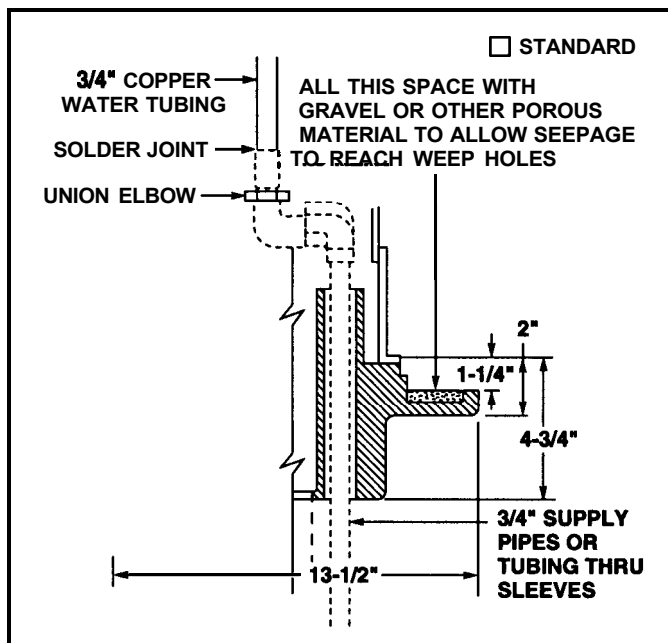

Figure 1
4. Make connections. Connect drain to waste piping and stub-up $3/4$ " supplies through sleeves, Figure 1. Double check steps 2 and 3 above.